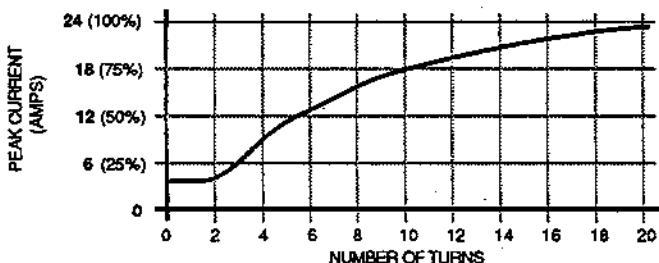

Figure 4-1. Relationship Between Current Limit Control and Current Output
- Step 6** Set the peak current by rotating the I Limit control CW to the desired current. Five turns CW gives approximately 50% (12A) peak current; 10 turns gives approximately 75% (18A) peak current (see Figure 4-1).